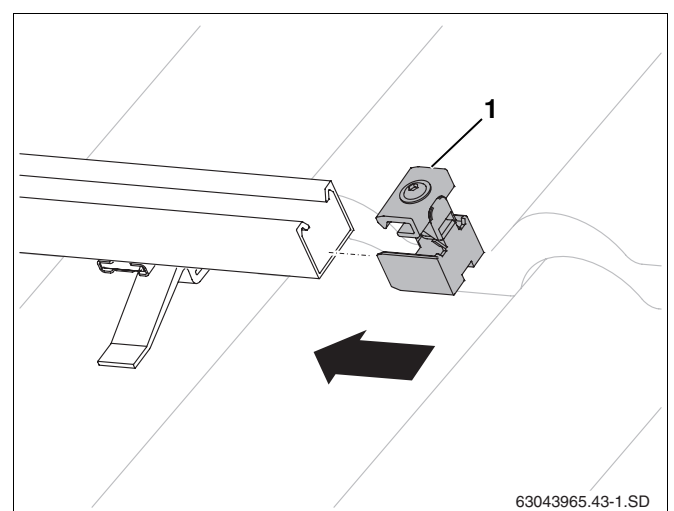

Fig. 41 Pushing on the single-sided collector clamp
- Push single-sided collector clamps (Fig. 41, **Item 1**) into the profile rails at the right-hand end of the collector array until they click into place in the first slotted hole on the profile rails.